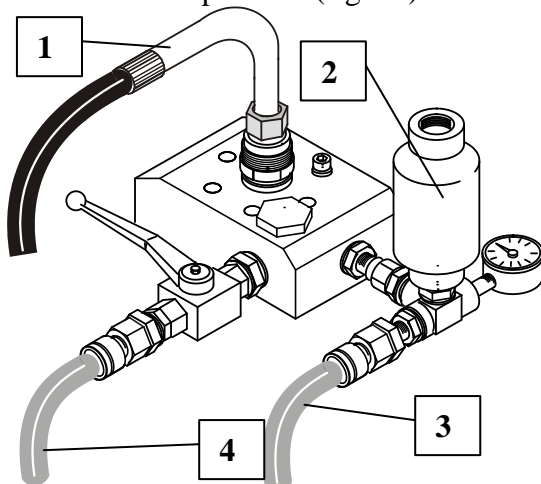

Fig.27
4) **NEVER** remove the product pipes while the machine is in operation (fig. 27).